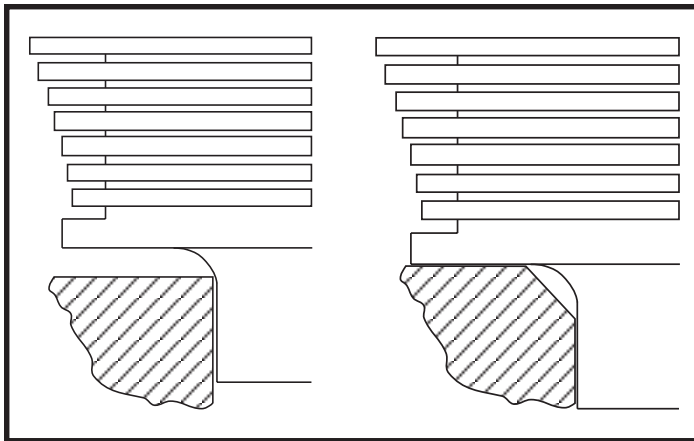

Figure 2
- I. Deburr and remove any "nubs" or protrusions which could accidentally break off. Break the corner on outside of spigot holes with a deburring tool. This insures that cylinder will not "hang up" during installation causing oil leaks due to inadequate gasket compression. **Figure 2** shows an exaggerated view.